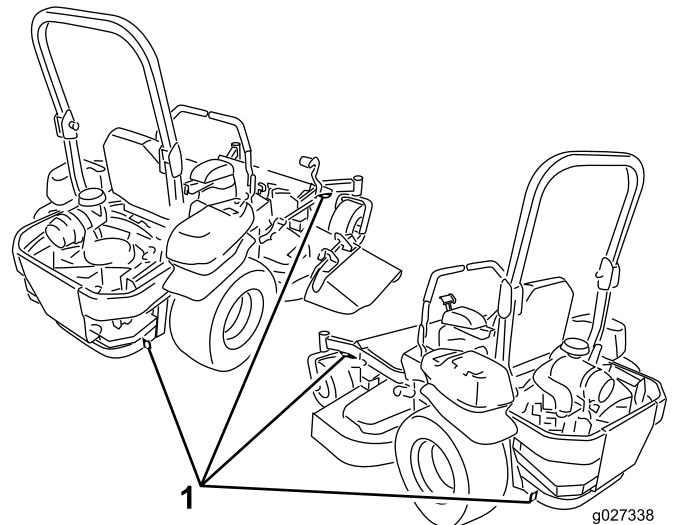

Figure 33
5. Use the tie-down loops on the machine to securely fasten the machine to the trailer or truck with straps, chains, cable, or ropes (Figure 33).